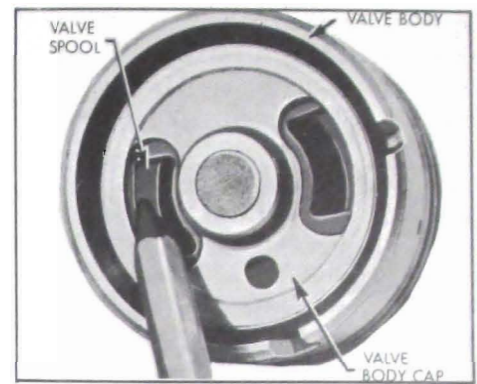
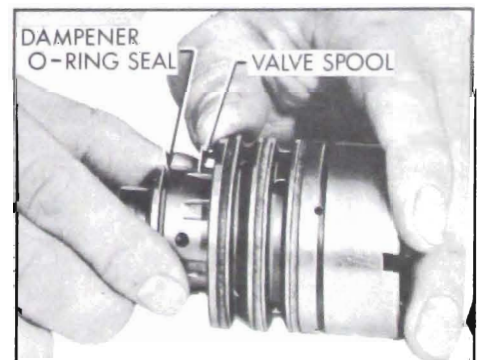

Figure 8-49—Separating Valve Spool From Valve Body
Figure 8-50—Withdrawing Valve Spool From Valve Body
3. Remove the valve spool by holding the valve assembly in one hand with the stub shaft pointing downward. Insert the end of a pencil or wood rod through the opening in the valve body cap and lightly push on the valve spool until it is far enough out of the valve body to be withdrawn. See Figure 8-49. Withdraw the spool with a steady rotating pull to prevent jamming. See Figure 8-50. If slight sticking occurs, make a gentle attempt to reverse the withdrawal procedure. If this does not free spool, it has become cocked in the valve body bore. Do not attempt to force the spool in or out if it becomes cocked, but continue with the following step.